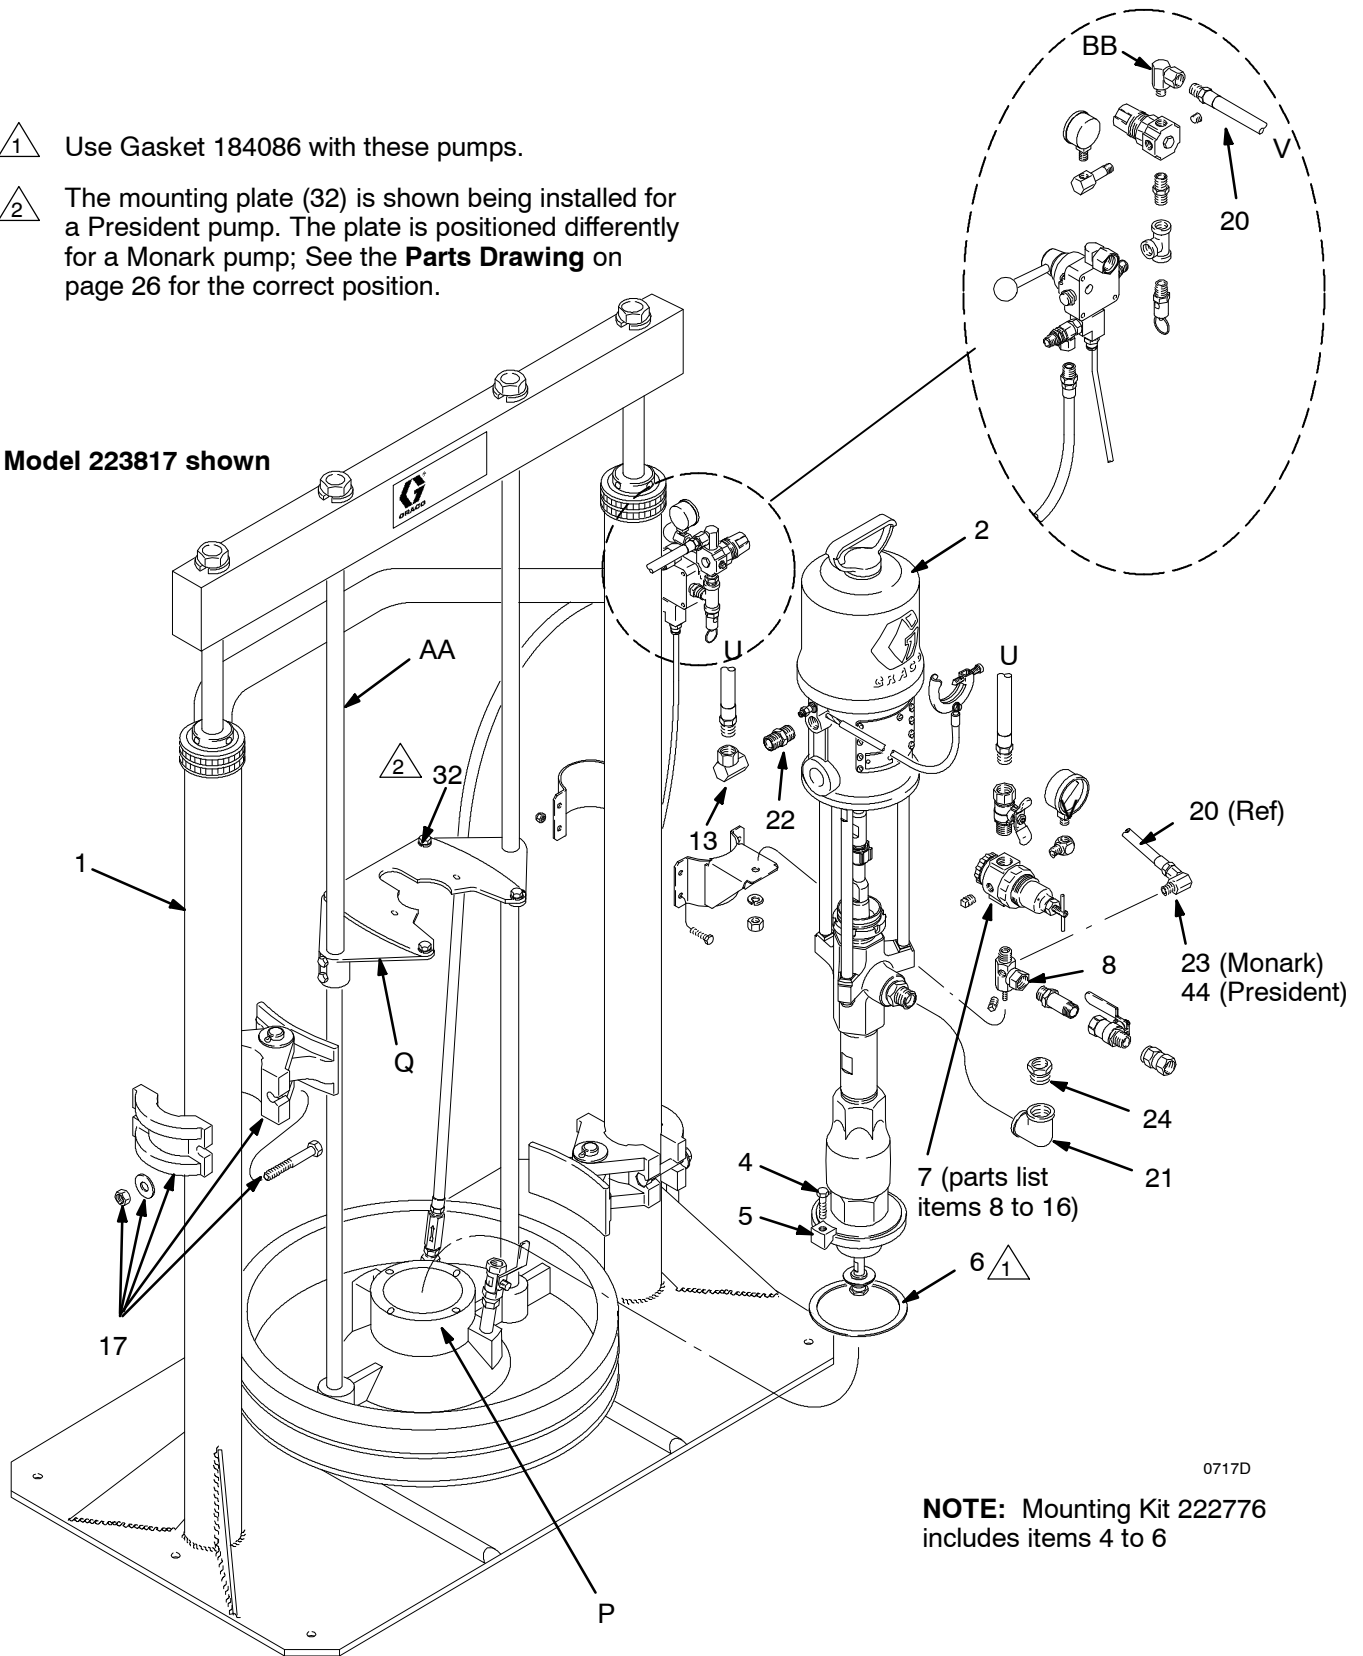

Fig. 4
1. Install the gasket (6) from Mounting Kit 222776 on the ram plate (P). See Fig. 4.
2. Install the pump mounting plate (32) onto the ram plates (Q) with the hardware included in Mounting Kit 224829.
NOTE: Fig. 4 shows the plate (32) being installed for a President pump. The mounting plate is positioned differently for a Monark pump. See the correct position in the **Parts Drawing** on page 26.
3. Lower the pump (2) onto the ram plate (P), and secure it with the four lugs (5) and screws (4). Secure the pump to the mounting plate (32) with the supplied hardware.
4. Install the drum clamps (17) on the cylinders of the ram (1) to hold the drum steady.
5. Screw the air inlet adapter (22) from the Accessory Kit 223881 into the pump air inlet. Use 3/8 npt(m) adapter 162505 for Monark pumps. Use 1/2 npt(m) nipple 100122 for President pumps.
6. Install the air regulation kit (7): Connect the non-swivel end of the 90° union (13) to the nipple (22) at the pump air inlet.
7. For Monark pumps, screw the bushing (24) into the elbow (21), then screw the elbow onto the pump outlet fitting so the bushing faces straight up. See the correct position in the **Parts Drawing** on page 26.
8. For Monark pumps, screw the 1/8 npt(m) end of adapter (23) into a 1/8 npt(f) port of the air manifold (8).
9. For President pumps, screw the 1/4 npt male end of 90° swivel union (44) into a 1/4 npt(f) port of the air manifold (8).
10. Connect one end of the air hose (20) to the swivel adapter (23 for Monark) or 90° swivel union (44 for President) at the air manifold (8). Connect the other end to the swivel adapter (BB) to the ram air regulator.